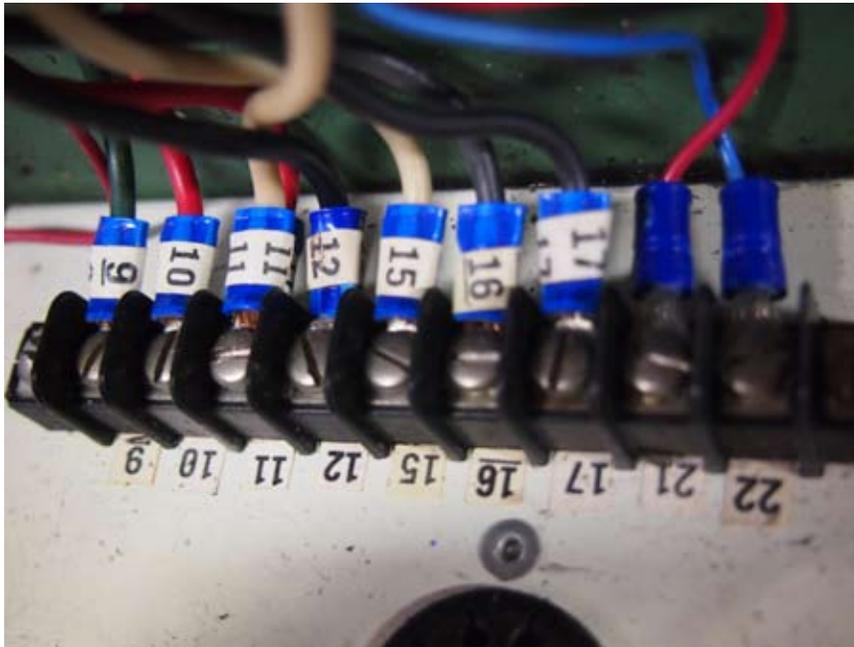
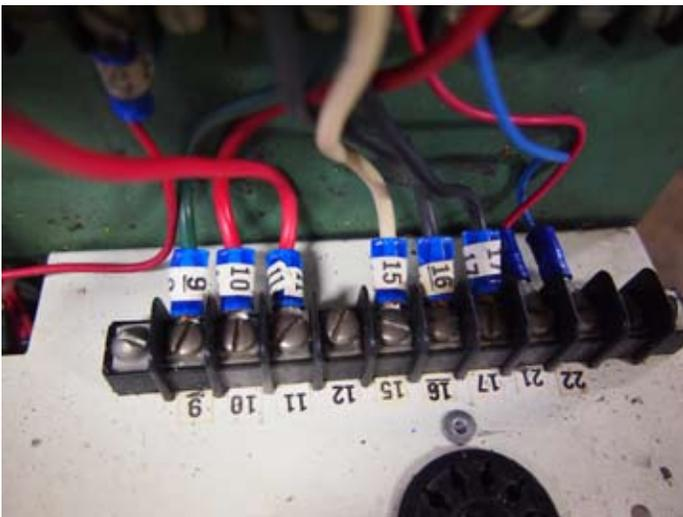
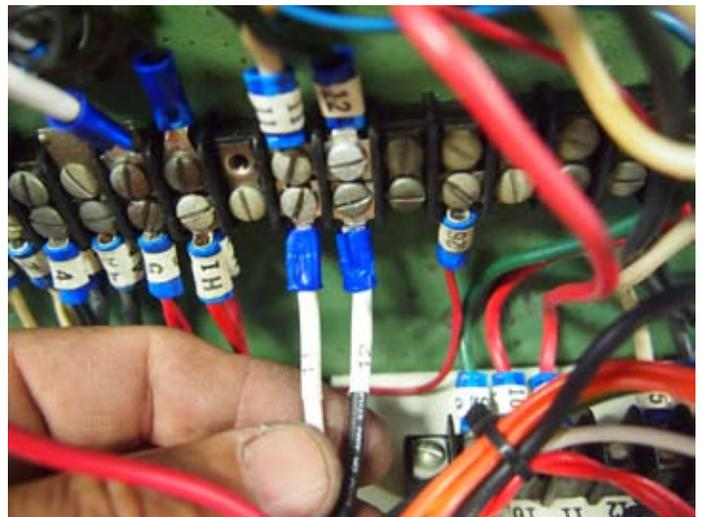

Figure 5
Figure 6
Figure 7
Step 3: Remove wire number 11 and black wire number 12 from terminal block next to 95A timer (before figure 5 after figure 6). Put both wires you just removed on any open terminals to terminal block on bottom of box. Then connect wire numbers 11 and 12 from retrofit kit to the same wires number on the block (Figure 7)